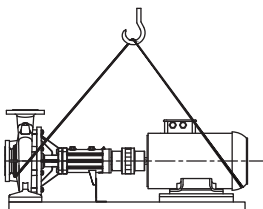

Fig.2: Transport of pump group
- Install the pump on the concrete base as illustrated in Figure 2.